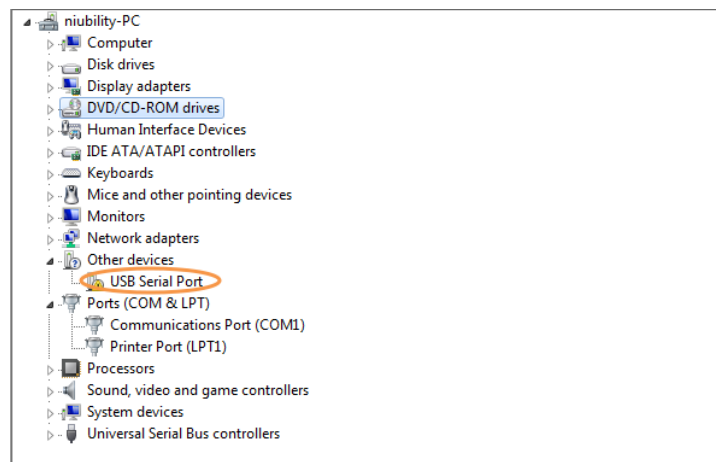

Figure 6-8 Unrecognized USB Serial Port on PC
- Power on your TR5 board, if you find an unrecognized USB Serial Port in Device Manager as shown in **Figure 6-8** .you should install the UART to the USB driver before you run the demonstration.